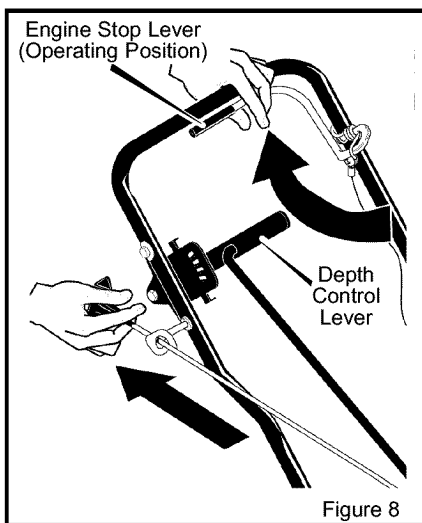

Figure 8
1. Move the **depth control lever** forward to raise the blade. Then, release the engine stop lever. See Figure 8.
1. Release the **engine stop lever** and the engine and the blade will automatically stop. To run the engine, hold the **engine stop lever** in the operating position. See Figure 8.